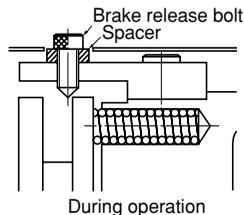

Fig.40
- (2) To return to the original state after releasing the bolts, re-install the spacer, which was removed in step (1), to the original position for safety. (See Fig.40.)